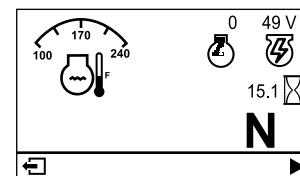

Figure 18
- **Main information screen (Figure 18):** shows current machine information while the key is in the ON position.